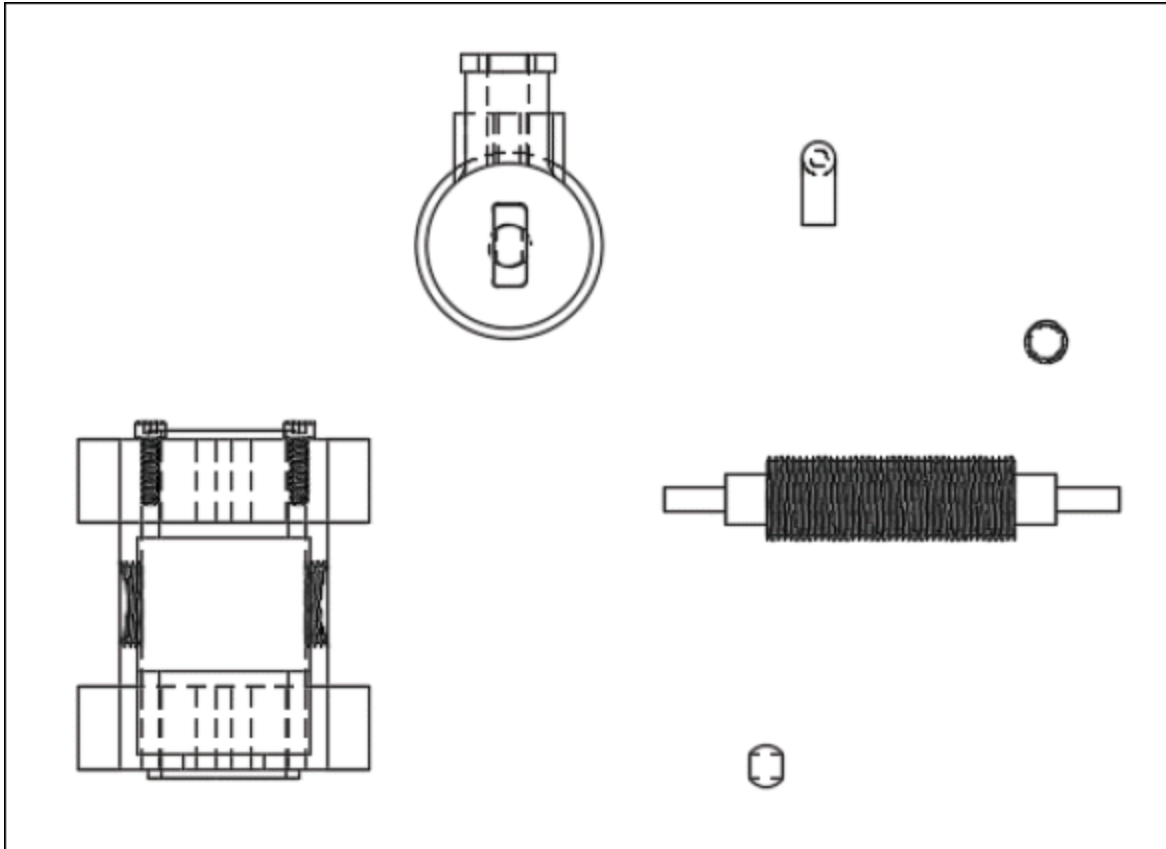

Figure-158. Base view created
- Click on the **OK** button from the dialog box to create the view; refer to Figure-158.